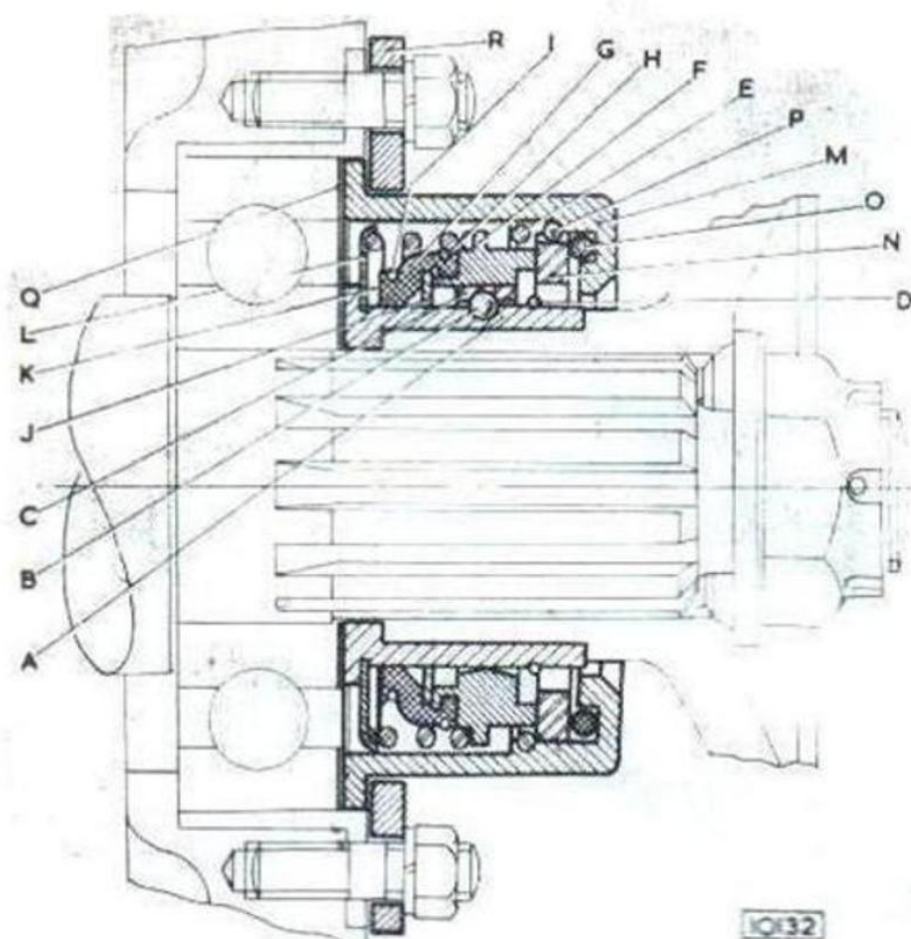

Fig. 8 The Llewellyn gland seal
DESCRIPTION (Fig.8).
Remove the nuts and lockwashers securing the Clamping Plate (R) Fig.8.